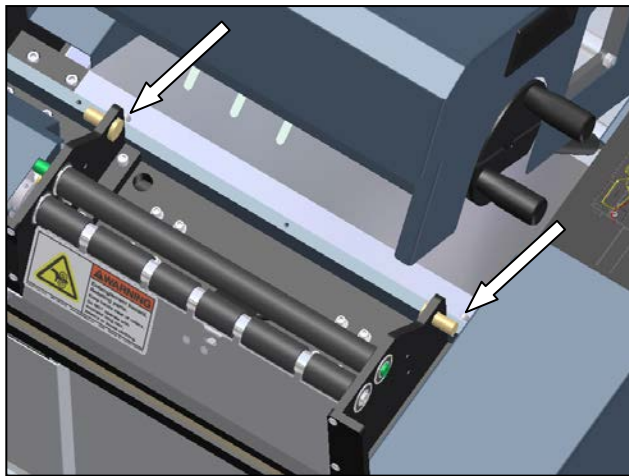

Figure 3-288. Motor Cover Front Screws
1. Remove the rear motor cover (Figure 3-288 and 3-289).
1. Remove the rear motor cover and the outside frame guard (see Figures 3-288 thru 3-290).